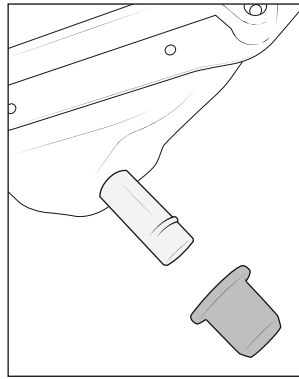

Figure 12
- D. Screw in the supplied aluminum Insulator Dowel and fit with rubber grommet found on the factory airbox (fig. 12).